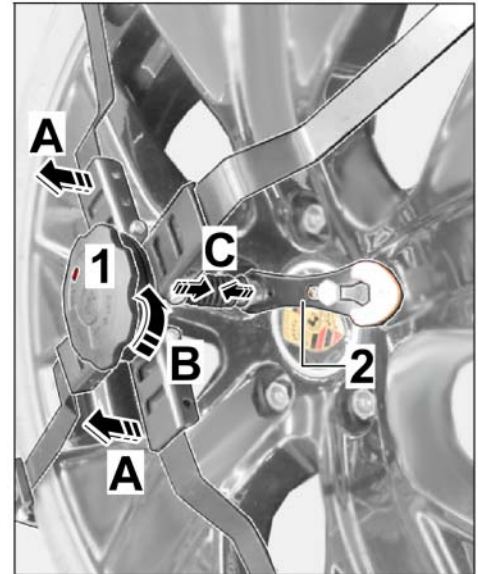

Figure 11
3.2 Pull the knob slightly off the rear wheel (⇒ *Figure 11-A*).
At the same time, turn the knob to the left (minus "-" sign ⇒ *Figure 11-B*) until the fastening lever with cable and bellows (⇒ *Figure 11-C*) have become loose.